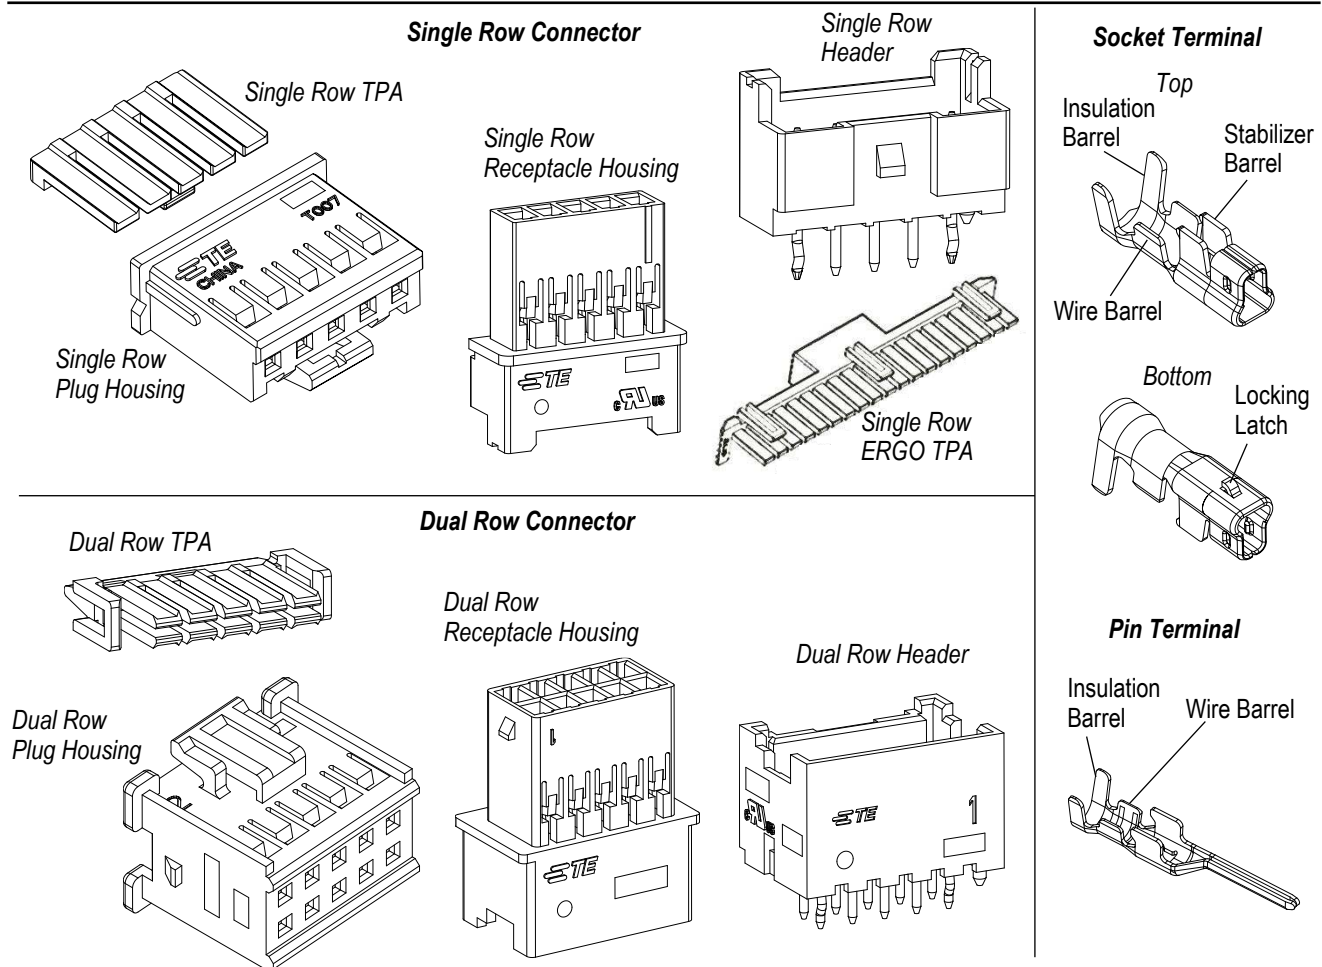

Figure 1
When corresponding with TE Connectivity (TE) Personnel, use the terminology provided in this specification to facilitate your inquiries for information. Basic terms and features of this product are provided in Figure 1.